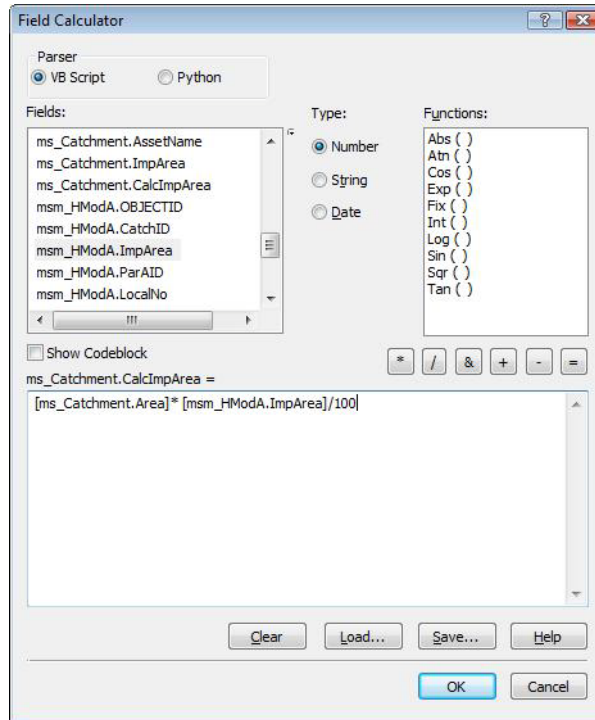

Figure 5.2 Using the field calculator for calculating the impervious area
4. Compute the impervious area as seen in Figure 5.2. The field calculator works on the selected rows.